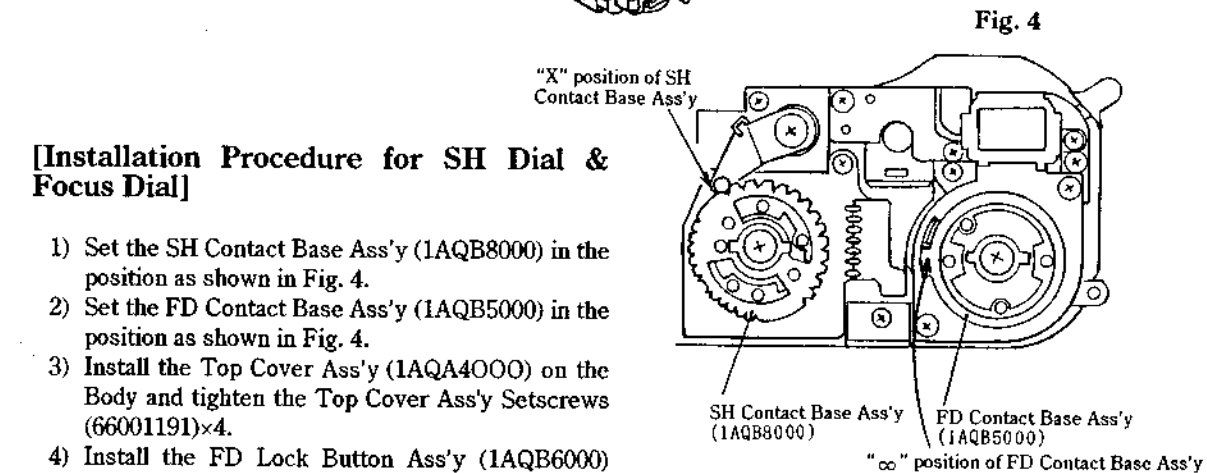

Fig. 4
- 1) Set the SH Contact Base Ass'y (1AQB8000) in the position as shown in Fig. 4.
- 2) Set the FD Contact Base Ass'y (1AQB5000) in the position as shown in Fig. 4.